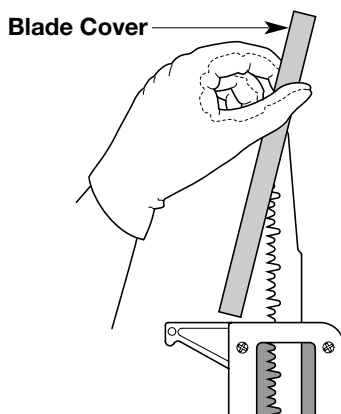

Fig. 3
4. Before operating unit, remove blade cover completely (Fig. 3). Store away for later use.